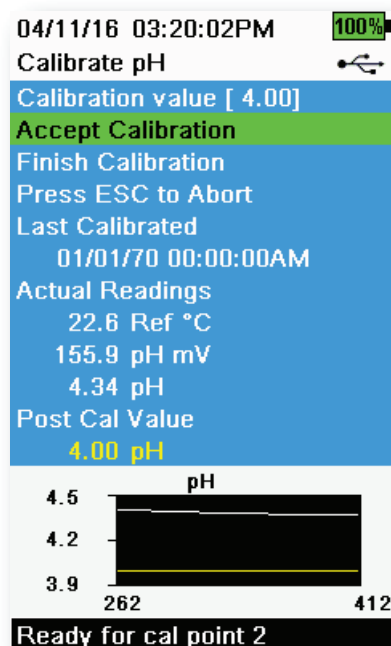

Figure 52 Calibrate pH 2- or 3-point
6. Observe the actual measurement readings for stability (white line on graph shows no significant change for 40 seconds), then select **Accept Calibration** (Figure 52). "Ready for cal point 3" will be displayed in the message area.